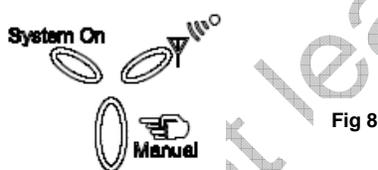

Fig 8
- During the installation process or if the RF link is lost the manual switch on the front of the SunStatRF Si Rx (see Fig 8) can be used to switch the boiler "ON" or "OFF". If the boiler is controlled in this manner no temperature control is achieved. The manual switch does **not** function if the RF link has been **established**.